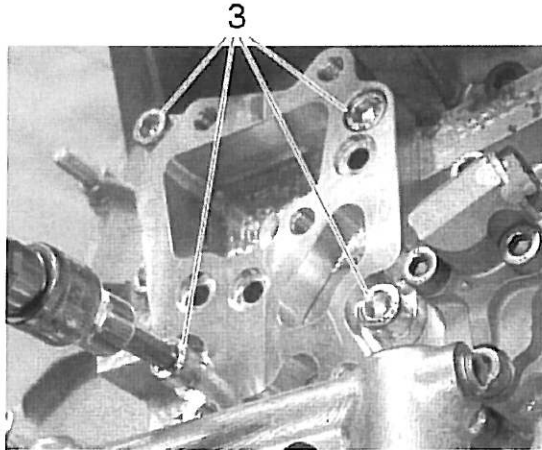

Figure 11
7. Tighten up the four screws (item 3) to the specified tightening torque. See Figure 11.